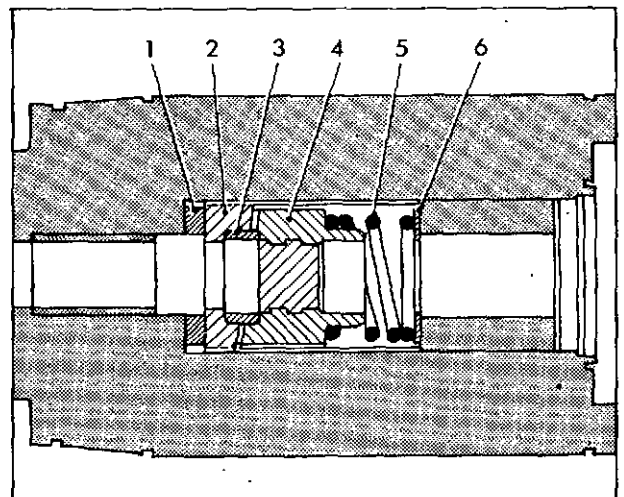

Fig. 10 Assembling ratchet mechanism
Lightly smear the ratchet components with Aero Shell 16 grease, then assemble them into the armature in the following order: thrust washer (1) fig. 10, armature sleeve ratchet (2), thrust ring (3), helix sleeve ratchet (4), spring (5) and washer (6).